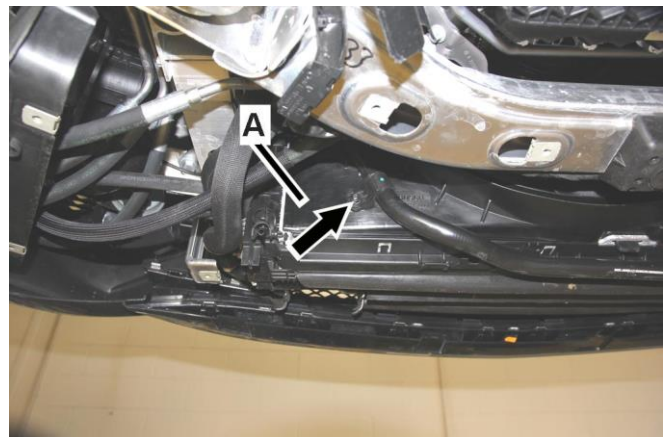

Figure 3
- Remove screw (arrow, Figure 3) in order to unfasten coolant line from bottom of radiator fan (A).